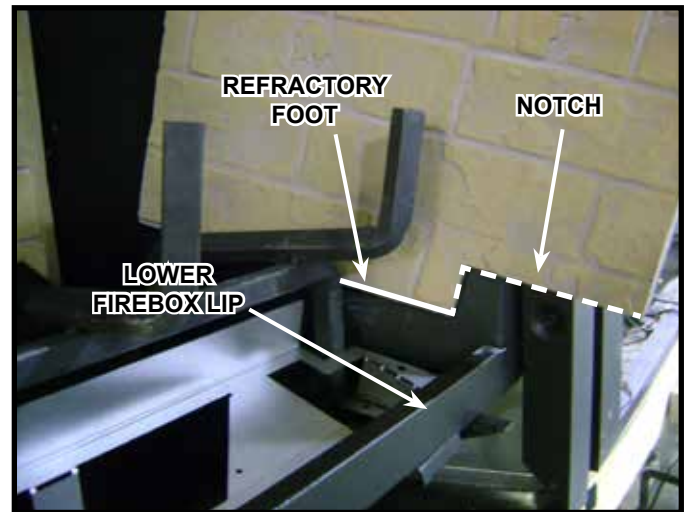
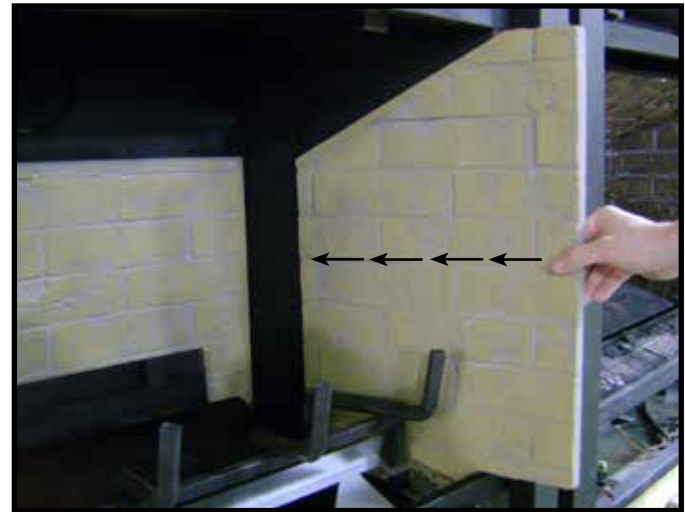
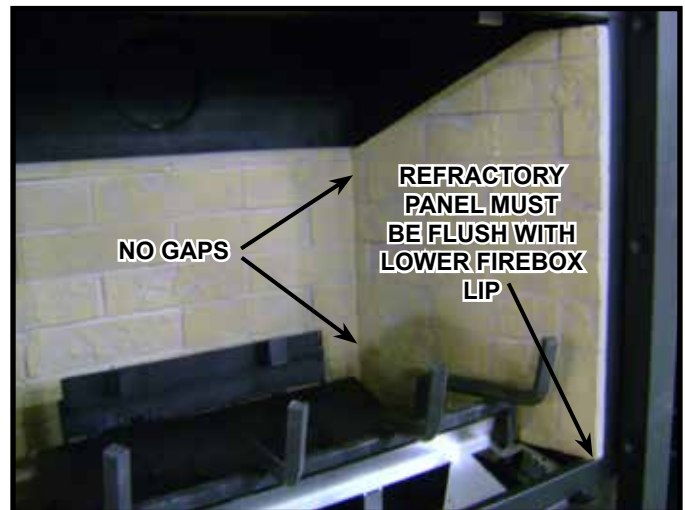

Figure 3
Figure 4
Figure 5
3. Place the right refractory panel against the right side-wall of the firebox. Rest the rectangular notch located on the bottom of the right refractory panel over the lower firebox lip. Let refractory foot rest on firebox after panel's notch has been mated with firebox lip. See Figure 3.
4. Slide the right refractory panel completely into the firebox until it securely rests against back refractory panel. Make sure that right refractory panel makes full contact with the right sidewall of the firebox. See Figure 4.
CAUTION: Logs are fragile, handle with care. **Log #1 (SRV2164-701):** Locate log placement tabs on the pilot cover. Bend tabs upward as shown in Figure 2. Locate the log placements slots on the bottom of Log #1 (see Figure 3). Mate the slots located on the bottom of Log #1 with the log placement tabs on the pilot cover. Log #1 is properly installed when it sits squarely and completely on pilot cover with tabs engaged (see Figure 4).
Figure 4 shows the log placement tabs located on the top of Log #1. The tabs will be mated with the slots located on the bottom of Log #2 and Log #3 (see Figure 5). Log #2 and Log #3 also have grooves that allow the logs to be seated properly on the grate (see Figure 5). Hold Log #1 upright while placing Log #2.
CAUTION: LOGS ARE FRAGILE, HANDLE WITH CARE. **Log #1 (SRV2168-701):** Locate log placement tabs on the pilot cover. Bend tabs upward as shown in Figure 2. Locate the log placements slots on the bottom of Log #1 (see Figure 3). Mate the slots located on the bottom of Log #1 with the log placement tabs on the pilot cover. Log #1 is properly installed when it sits squarely and completely on pilot cover with tabs engaged. See Figure 4.